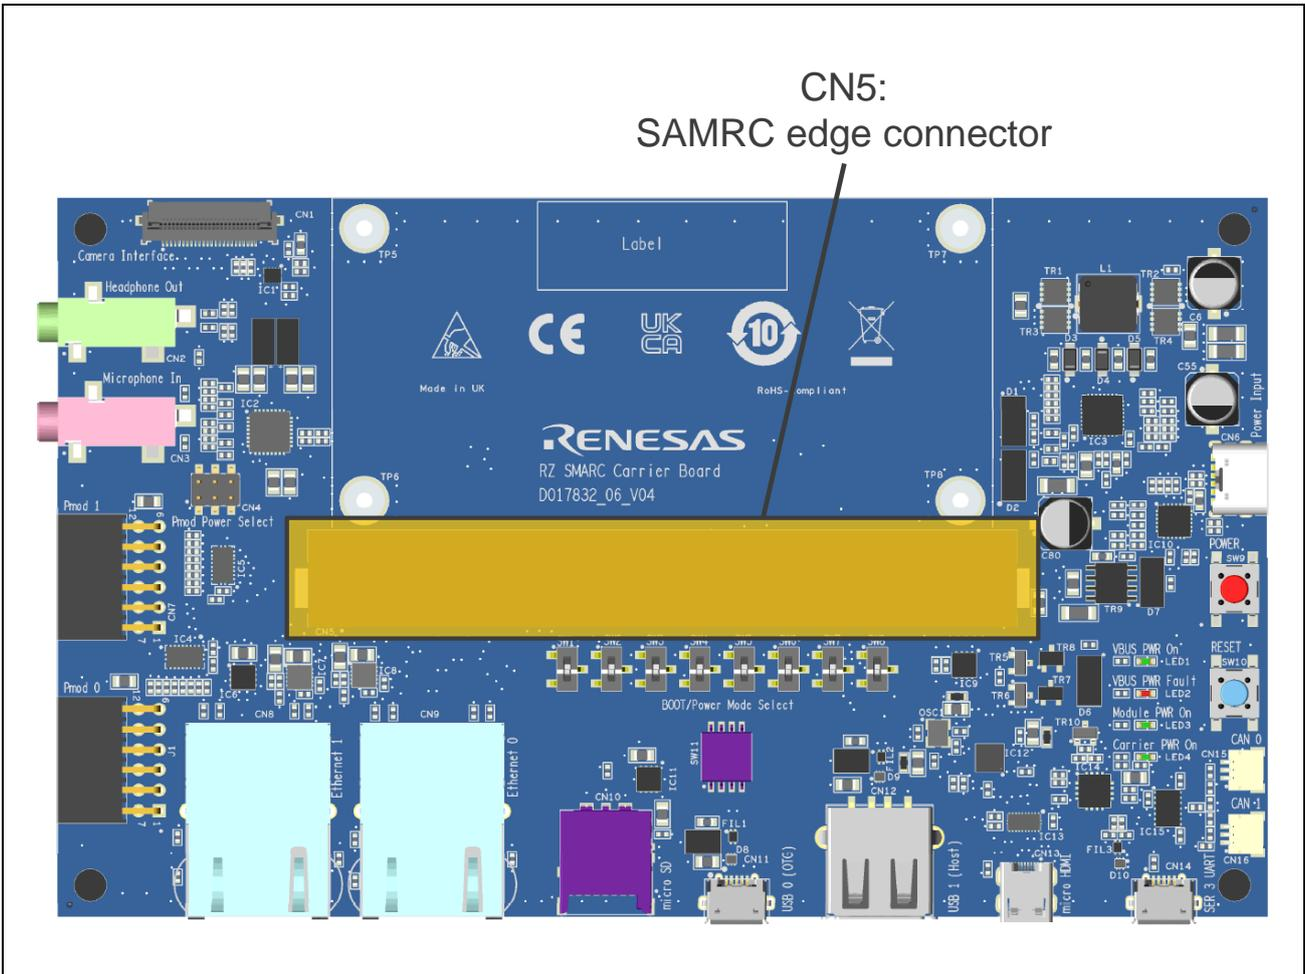

Figure 3.13 Layout of Carrier Board Connecting Pins
**Figure 3.13** illustrates the layout of Carrier board connecting connector pins. For the assignment of Carrier board connecting connector pins, please refer to the section4 “MODULE PIN-OUT MAP” of the document “SMARC module 2.1 Specification (sgnet.org)”.